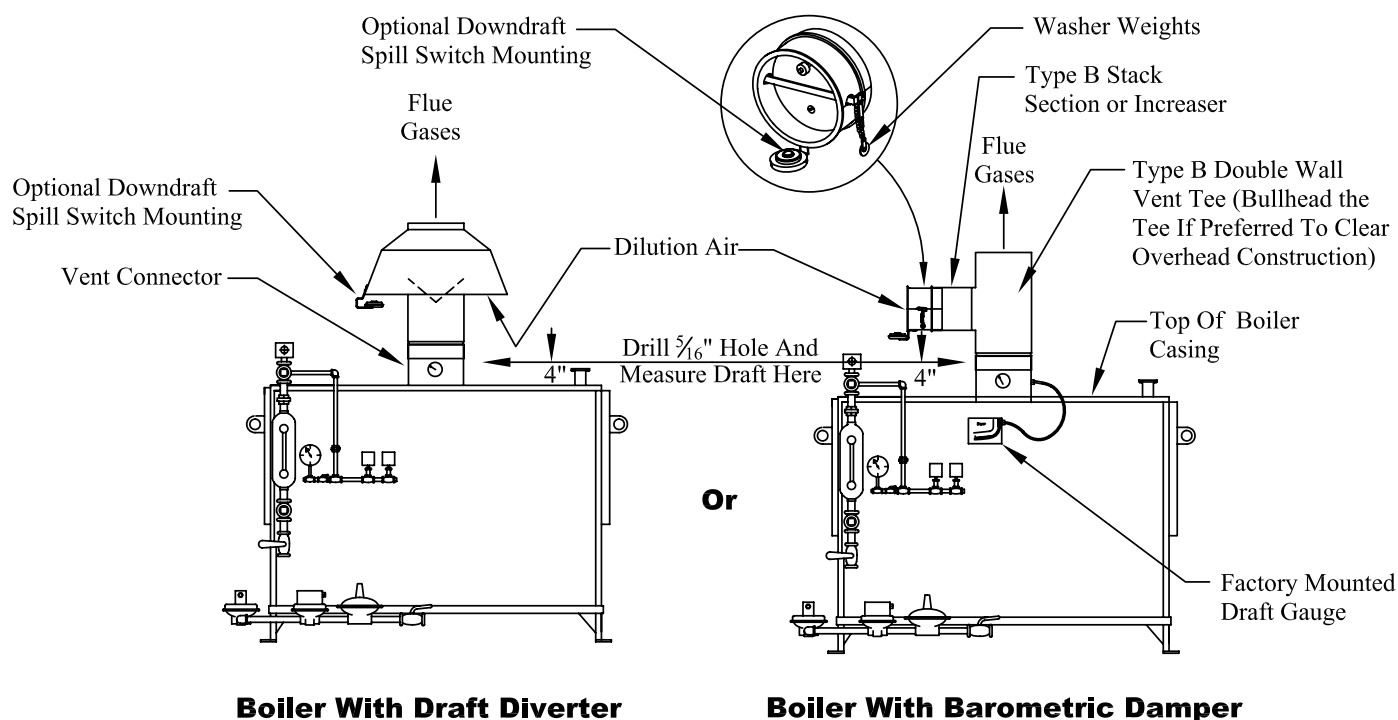

Figure 4
- Factory mounted draft gauges are standard on all boilers supplied with a Barometric Damper. The draft can be set up and monitored using this gauge. An optional flue gas thermometer for checking boiler efficiency may also be provided. See **Figure 4** below for draft control and draft measurement locations.